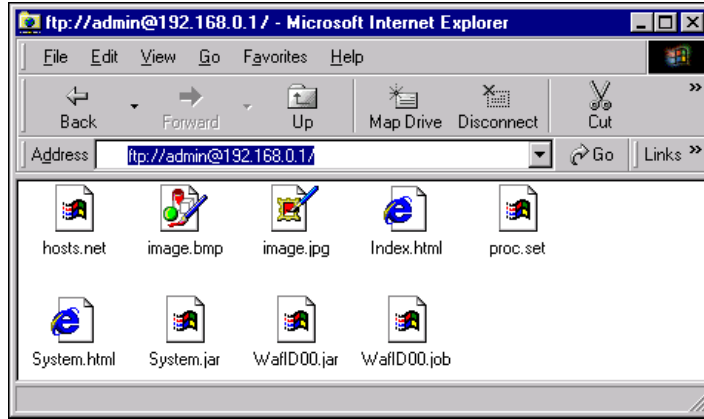

Figure B-0-3: Installed 1700 files
- 4 Locate the .HTM, .JAR, .JOB, and .SET files in the directory into which you previously installed the In-Sight PC Host (C:\InSight2\1700 by default). Copy and paste (or drag and drop) these files to the browser window, then refresh the view; the selected files have been copied to 1700 flash memory and now appear in the browser window, as shown in Figure B-0-3.